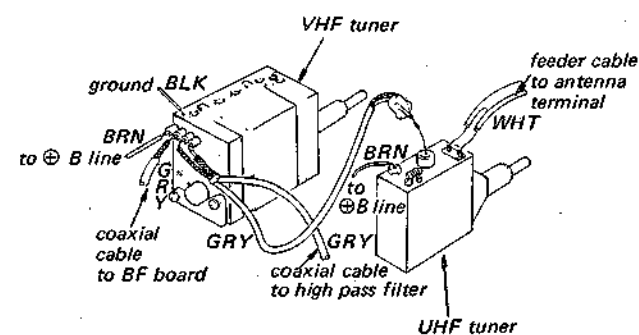

Fig. 2-15.
7. Unsolder the several lead wires which are connected to the vhf tuner as shown in Fig. 2-15.
7. Unsolder the several lead wires which are connected to the uhf tuner as shown in Fig. 2-15.